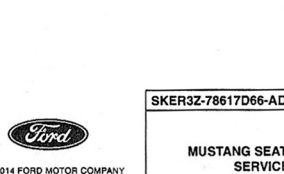

FIGURE 5
- Clean the gearbox housing halves of grease and/or broken plastic white gear pieces, using small brush. (Refer to Figure 5).